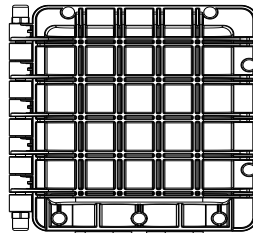

Figure 6
5.3 After finishing the above operation, tighten the plastic nut. See figure 6